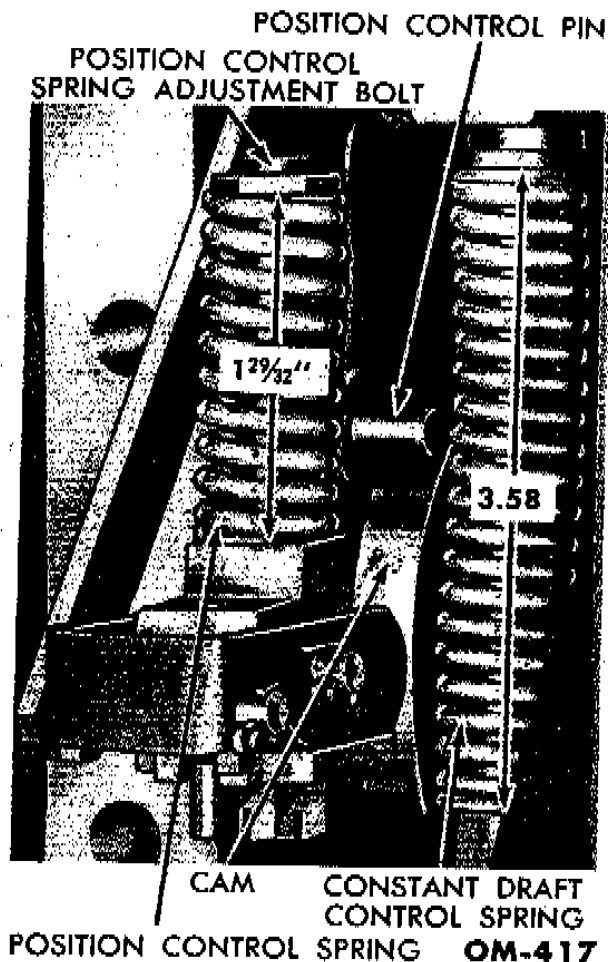

Fig. 30—Constant Draft Control and Piston Control Springs
(2) Examine the constant draft spring adjustment nut (fig. 29). If it is a lock nut, it should be tightened until the washer bears against the shoulder. If it is a standard castellated nut with a cotter pin, the nut should be adjusted to give the correct length of the constant draft spring, then the cotter pin can be installed. The constant draft spring should be 3.58 inches long (slightly over $3\frac{9}{16}$ inches is satisfactory) as shown in fig. 30.
(5) Make sure that the control arm moves freely and is held in a horizontal position by its own weight as shown in fig. 29. Loosen the position control lock nut, and adjust the length of the position control spring by turning the position control spring adjustment bolt (fig. 30). Adjust the position control spring length until the position control pin contacts the cam, and the position control-spring adjustment bolt contacts the control arm, as shown in fig. 29. It will probably be necessary to hold the position control pin in contact with the cam. The position control spring length should be $1\frac{29}{32}$ inches plus or minus $\frac{1}{16}$ inch after the adjustment has been made (fig. 30). Tighten the position control spring lock nut after completing the adjustment.